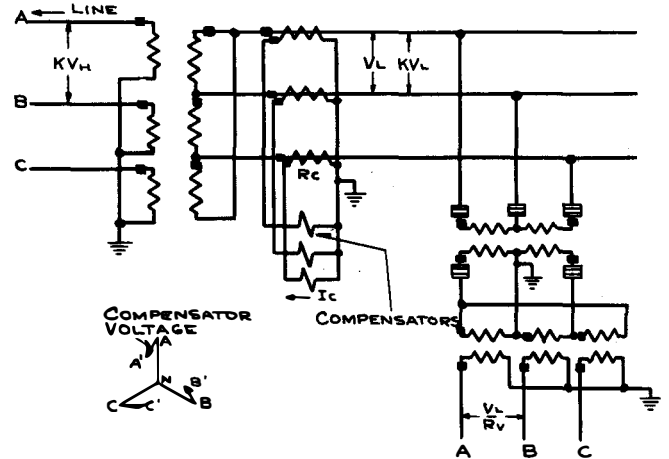

Figure 5
In the case of the Star-Delta connected power transformer, an auxiliary potential transformer is required as per figure 5.
**CASE III** Star-Delta connected power transformer Compensator Current Transformer Outside Delta (figure 5 & 12).